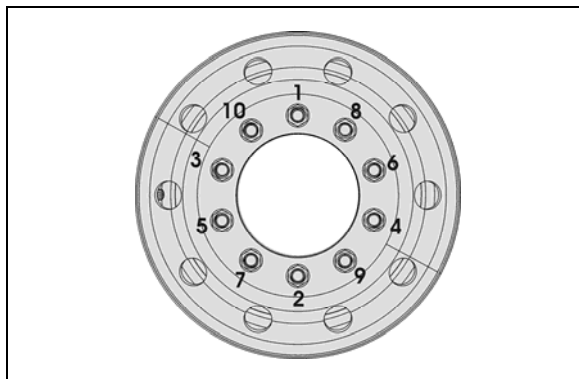

FIGURE 3: TIGHTENING SEQUENCE
| FIGURE 3: | TIGHTENING SEQUENCE..... | 8 |
It is also important that wheel stud nuts be tightened alternately on opposite sides of the wheel. Refer to Figure 3 for the suggested tightening sequence.
Tighten stud nuts progressively as shown in Figure 3. The final tightening should be done with a torque wrench.
2. Screw in the hex stud nuts (refer to Figure 3 for sequence) so that wheel will position itself concentrically with hub. This is important, otherwise wheel may be eccentric with hub and will not run straight. In this initial step, slightly tighten the nuts to correctly position the wheel;
3. Tighten stud nuts progressively as shown in Figure 3. The final tightening should be done with a torque wrench.
With inner and outer wheels installed, tighten the stud nuts progressively as shown in Figure 3. The final tightening should be done with a torque wrench.
Repeat for each of the 10 "hex stud nuts" according to the tightening sequence in figure 3.
Using a calibrated torque wrench, tighten wheel nuts. Do not use power tools or long bars for tightening. Tighten wheel nuts alternately as shown in figure 3.